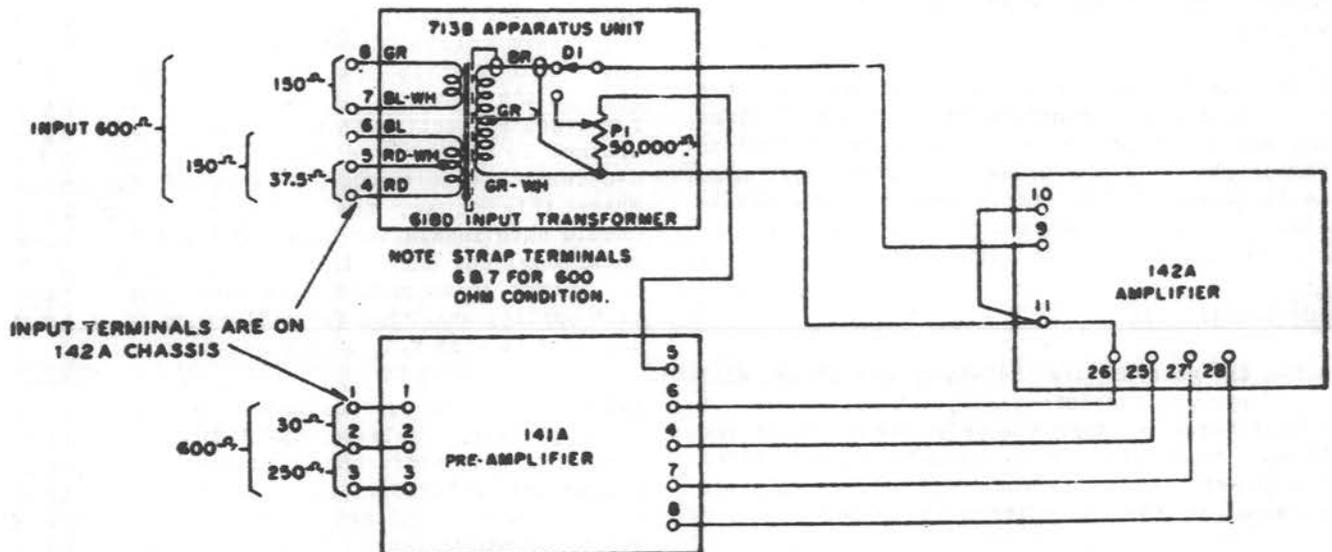

Fig. 6 - 142D Amplifier - Block Diagram
2.23 This consists of a basic 142A amplifier, with a 141A preamplifier and an additional input transformer mounted on its chassis. Fig. 6 shows a block diagram of the 142D amplifier. The input arrangement chosen depends upon the type of service in which the amplifier is used, and the maximum input levels which may be encountered.